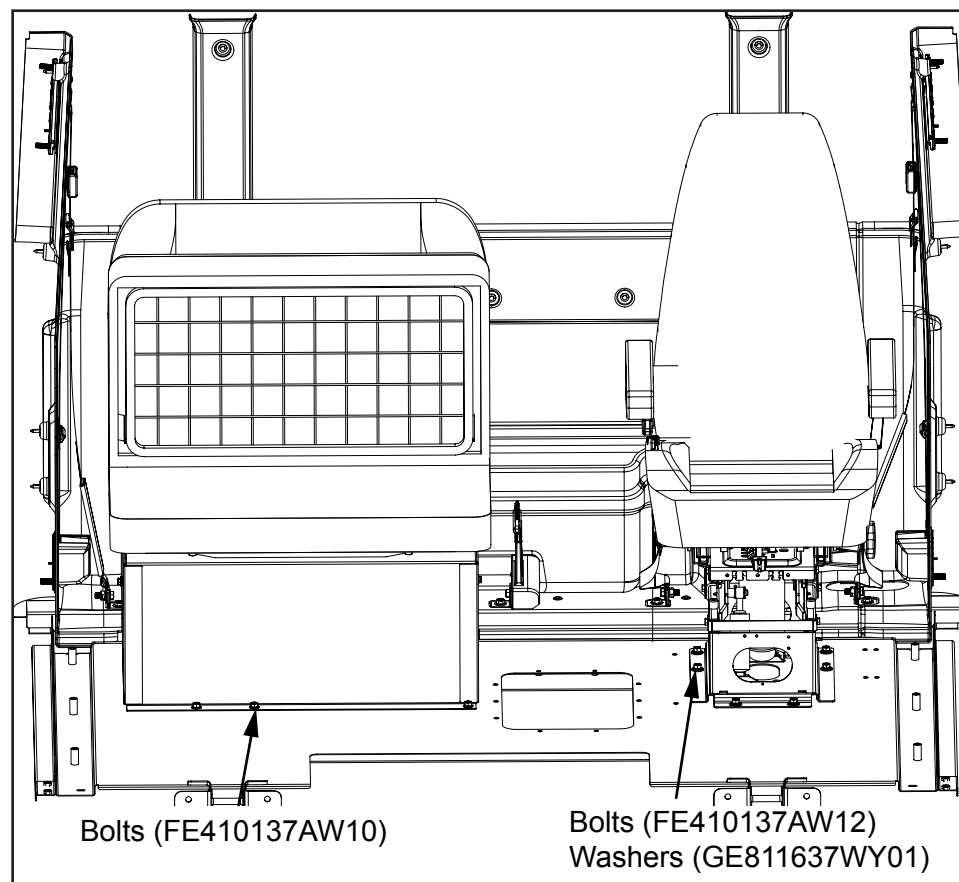

Figure 19
20. Reposition the bench seat and install (9) bolts (FE410137AW10) and tighten to 23 Lbs-Ft of torque. Install (8) bolts (FE410137AW12) with washers (GE811637WY01) and tighten to 23 Lbs-Ft of torque (see *Figure 19*).